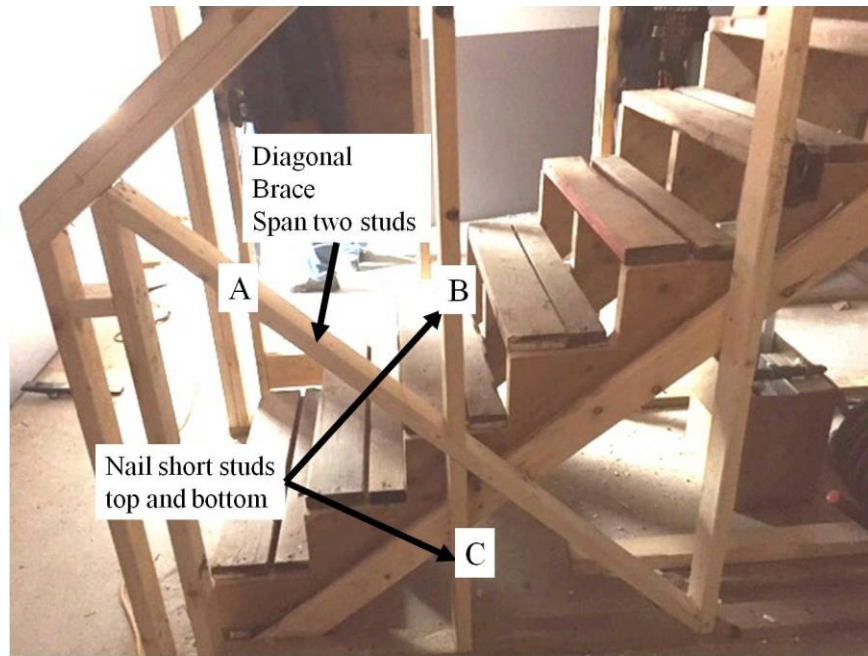

Figure 6-6. Stairway Wall Bracing.
7. To stiffen the wall, cut and nail an angled 2x4 brace between the bottom of the uncut stud and the top of the next cut stud, through the space where the stud was removed earlier (see "A" in Figure 6-6 below).
10. Measure and cut, at the same angle, two 2x4s to fit above and below the angled brace as shown in Figure 6-6, “B” and “C”, respectively. Toenail the lower (“C”) to the bottom plate and through the diagonal brace into the top. Nail the upper (“B”) through the upper plate into the top end and then through the diagonal brace into the lower end. Use two 3¼” Paslode nails at each location.